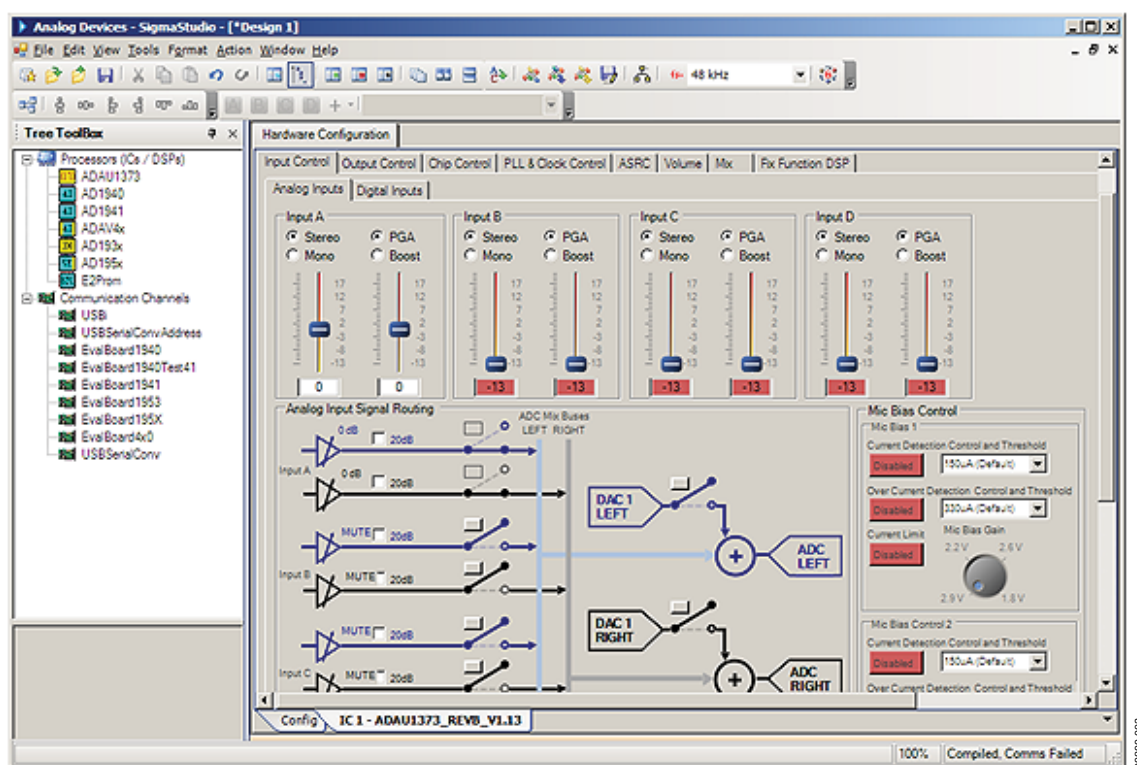

Figure 2. Hardware Configuration Tab—Register Setup
4. In the **IC 1 - ADAU1373_REVB_V1.13** tab, configure the ADAU1373 registers by clicking the intuitive graphic user interface (GUI) elements in the **Input A to Input D**, **Analog Input Signal Routing**, and **Mic Bias Control** sections to set up the proper datapath (see Figure 2).